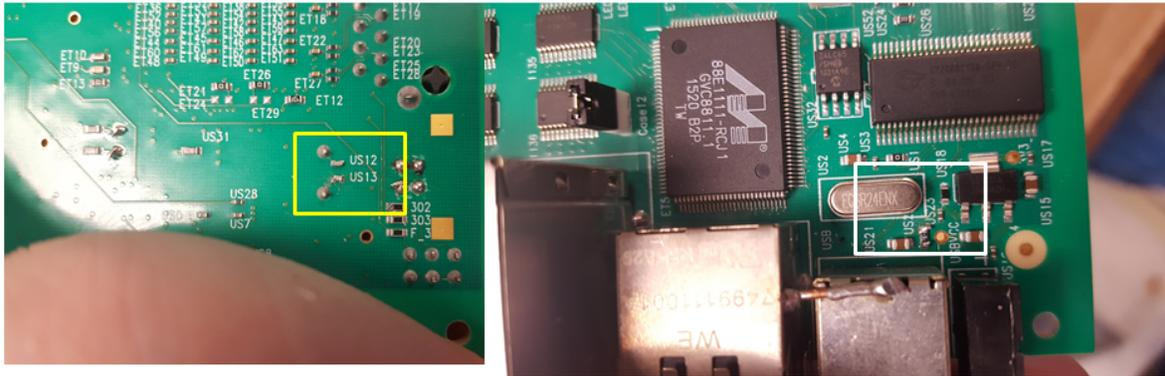

Figure 8: US22 and US18 are inside the yellow box. US12 and US13 are inside the red box, and directly underneath US22 and US18.
1. Check to see if there are resistors at slots US22 and US18 on the ACC board. They are located by the USB port, and are shown in the white box in figure 8. On the board that I have working, US22 is 180Ω and US18 is 115Ω .